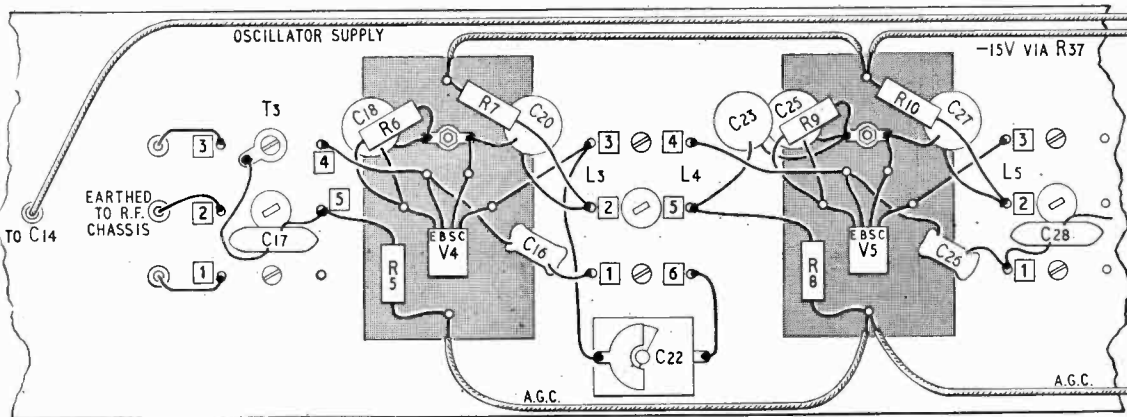
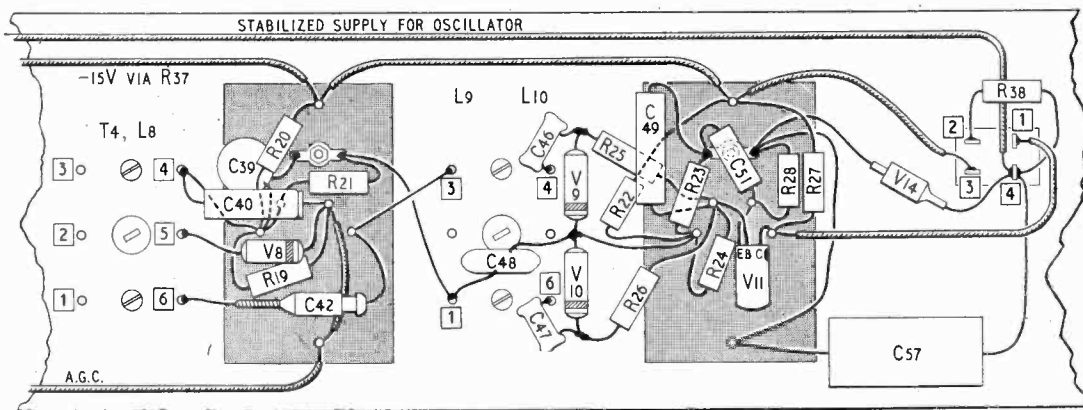

Fig. 4. First and second i.f. amplifier stages: wiring of the following stages is similar.
Fig. 5. Limiter, discriminator and first a.f. amplifier layout.
**I. F. Unit.**—Starting as close as possible to the r.f. unit, the brass channel is drilled for the six coil formers at 2-in spacing between centres. Following each coil a tag-board,  $1 \times 2\frac{1}{2} \times \frac{1}{16}$  in, should be mounted under the chassis. The six tag-boards are fixed on  $\frac{1}{4}$  in spacers, and each carries six small turret terminals. The first four tagboards carry the four i.f. transistors; the last two carry the limiter, discriminator and first a.f.-stage circuitry. Fig. 4 shows the layout of the first two i.f. stages and Fig. 5 shows the limiter and discriminator. At the end of the i.f. chassis there is a four-pin plug which engages with a socket on the a.f. unit. The pin connections used are:—